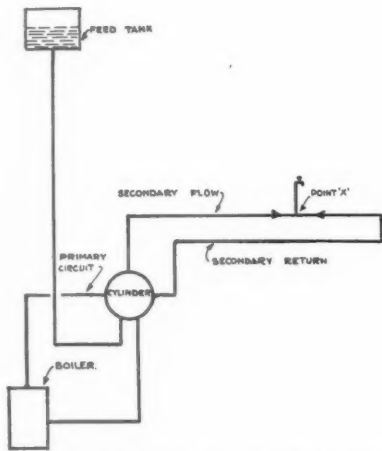

Figure 159. Showing flow of water in secondary circulation when a tap is opened.
4. No account has been taken in the example of water flowing to the taps from the return pipe which occurs where secondary circulation is used without a pump. In Fig. 159, when a tap is opened at X, water will obviously flow to it in both directions from the cylinder, the water in the return pipe flowing in the opposite direction from usual owing to the gravity circulation being completely overcome by the much greater head from the tank to the tap.